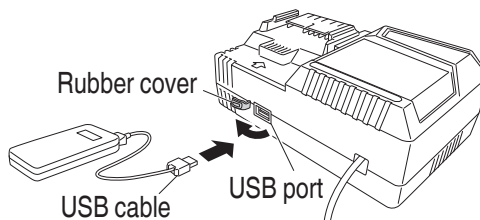

Fig. 16
- (2) Connect the USB cable. (Fig. 16)